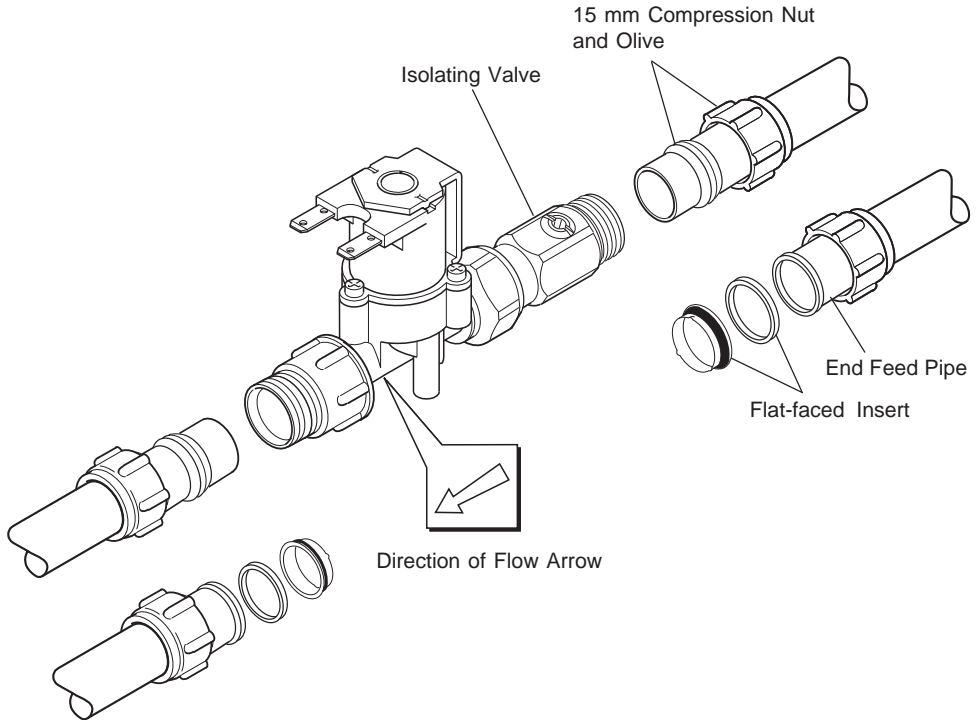

Figure 2
1. Connect the pipework to the inlet/outlet fittings. For 15 mm compression connections use the compression nuts and olives supplied. For 1/2" BSP union connections fit the flat-faced inserts to the inlet/outlet fittings. **Make sure that the water flow follows the directional arrow indicated on the valve (refer to Figure 2).**